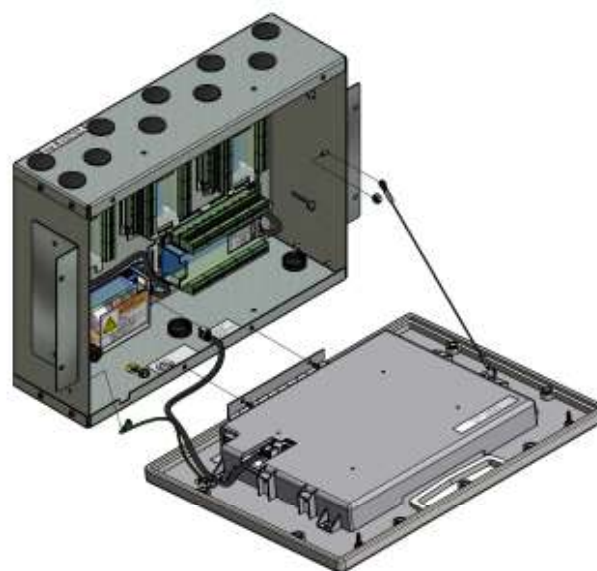

Figure 29: Attach Front Panel and Lanyard
4. Attach front panel to alarm panel rough-in box using screws removed in step 2 (Figure 29).